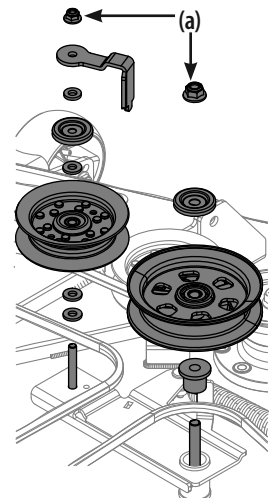

Figure 55
4. Remove the two idler pulley assemblies by removing the flange lock nuts (a) at the top of the assemblies, then removing the assemblies from the idler arm. See Figure 55.